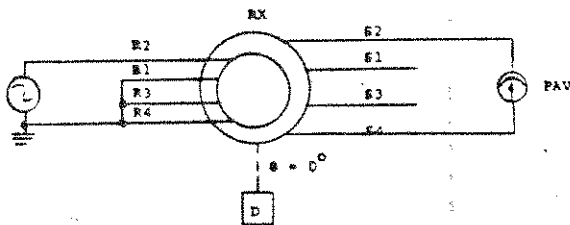

Figure 7-21. Phase Shift Test (RX)
- a. Set up equipment as shown in figure 7-21.